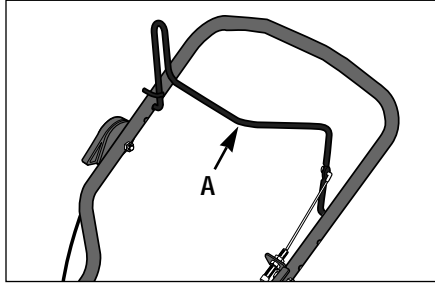

Figure 4-3: Control bail disengaged.
The Trimmer Head Control Bail (A, Figure 4-3) is used to start and stop trimmer head motion.
1. Leave the control bail in the disengaged (released) position when starting the engine to prevent the trimmer head from turning when the engine starts. See Figure 4-3.
5. Release (disengage) the Trimmer Head Control Bail (A, Figure 4-3).